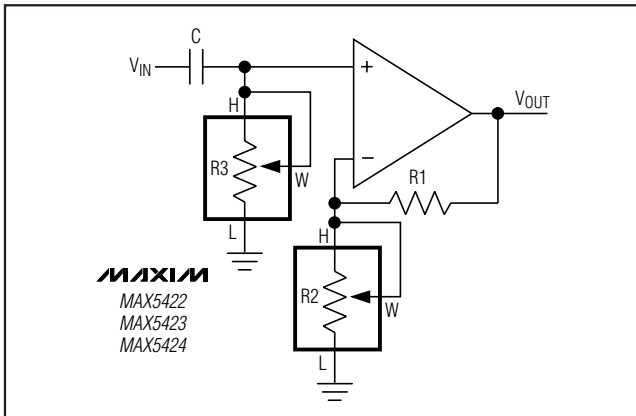

Figure 5. Programmable Filter
Figure 5 shows the configuration for a 1st-order programmable filter. The gain of the filter is adjusted by R2, and the cutoff frequency is adjusted by R3. Use the following equations to calculate the DC gain (G) and the 3dB cutoff frequency ( $f_c$ ):